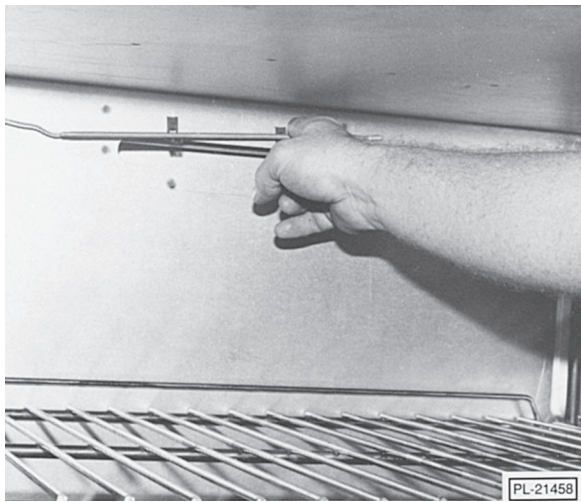

Fig. 28
2. From inside the oven cavity, remove the capillary bulb from the clips mounted to the cavity back wall (Fig. 28).